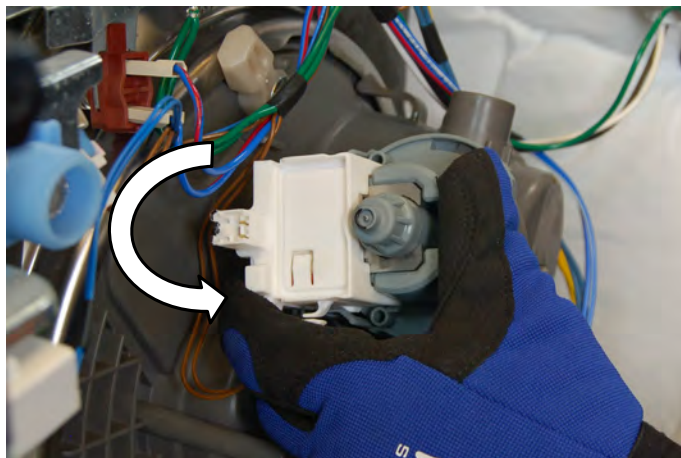

Figure 3
4. Rotate the drain pump 1/4 turn counterclockwise, (see Figure 3).